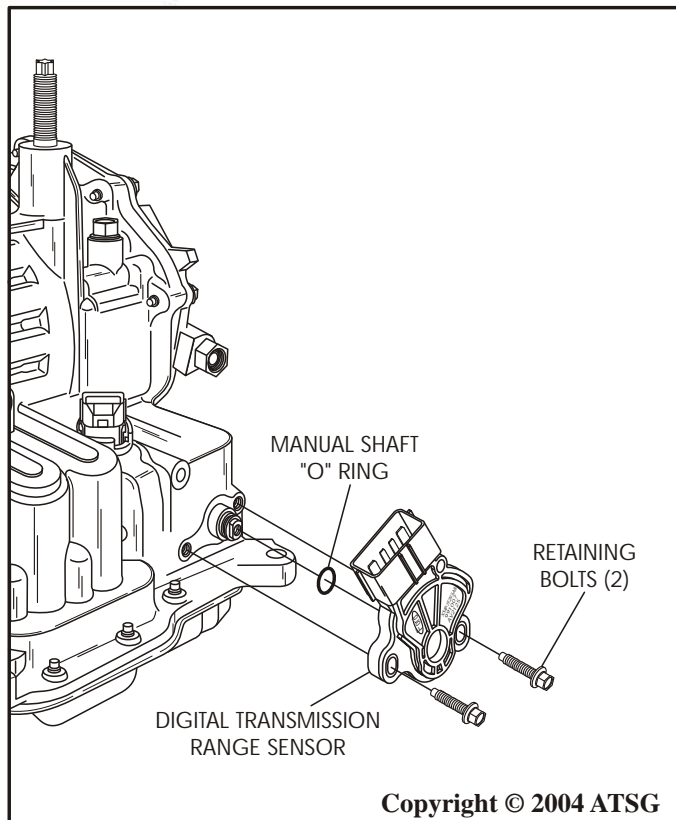

Figure 191
5. Loosely install the transaxle range sensor with the two bolts, as shown in Figure 191.
**Note:** Ensure that "O" ring is in place on manual shaft (See Figure 191).